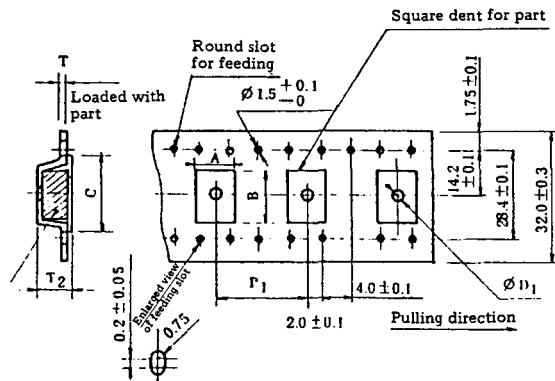

Fig. 6-8 Embossed taping types TE3212, 3216, 3220, 3224, 3228, and 3232
d) Types TE3212, 3216, 3220, 3224, 3228, 3232 (Fig. 6-8)